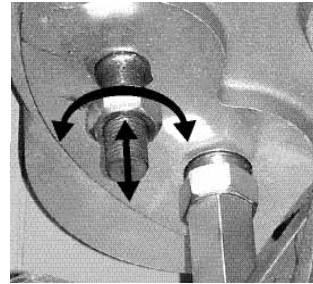

Figure 7. Changing Mixing Tool
1. Loosen the locking nut slightly with an open-ended wrench while holding the mixing tool firmly with a second open-ended wrench. See Figure 7.